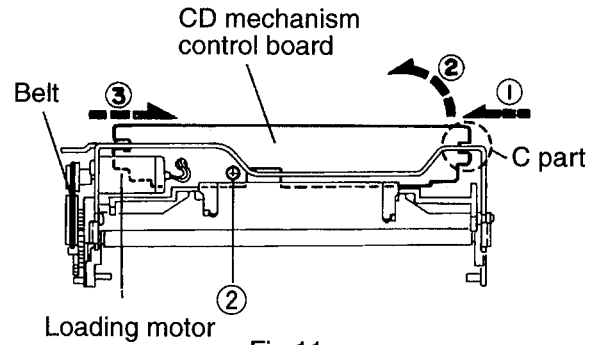

Fig.11
4. Remove the one screw ③ retaining the CD mechanism control P.C.board (See Fig. 11).
5. After disengaging the engagement between the notch section ④ and frame, remove the CD mechanism Control P.C. board successively from ① through to ③ in the arrow direction as shown in Fig. 11.